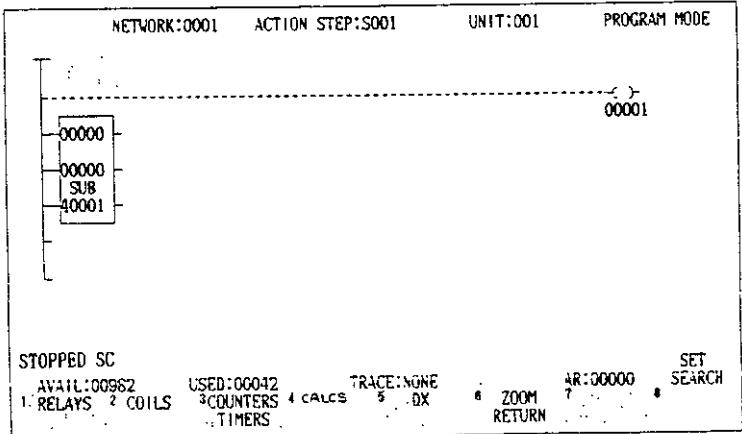

Fig. 5.103
4. To return to the SFC screen from the display of Fig. 5.103 or 5.104, depress **ZOOM RETURN** key.